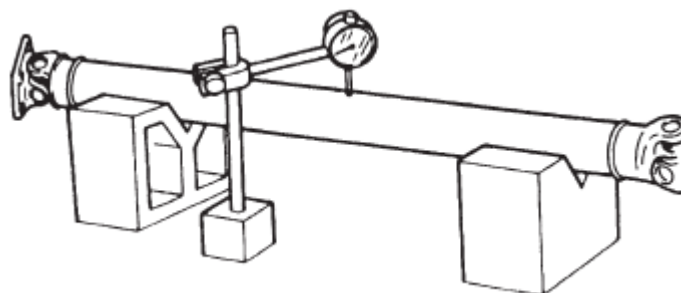

Fig. 5
- Measure the propeller shaft run-out using a dial indicator (Fig. 5).